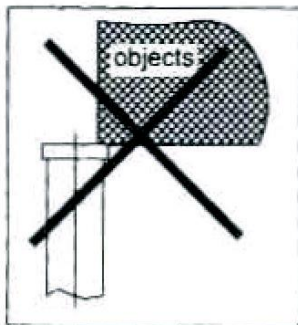

Figure 2
- Never adjust the safety valve (18) under any circumstance, it has been set at factory to prevent overloading. These components (10, 11, 18, 19, 20, 21) are part of the overloading protection.
- Never use the edge of jack's head to lift a load (see figure 2).